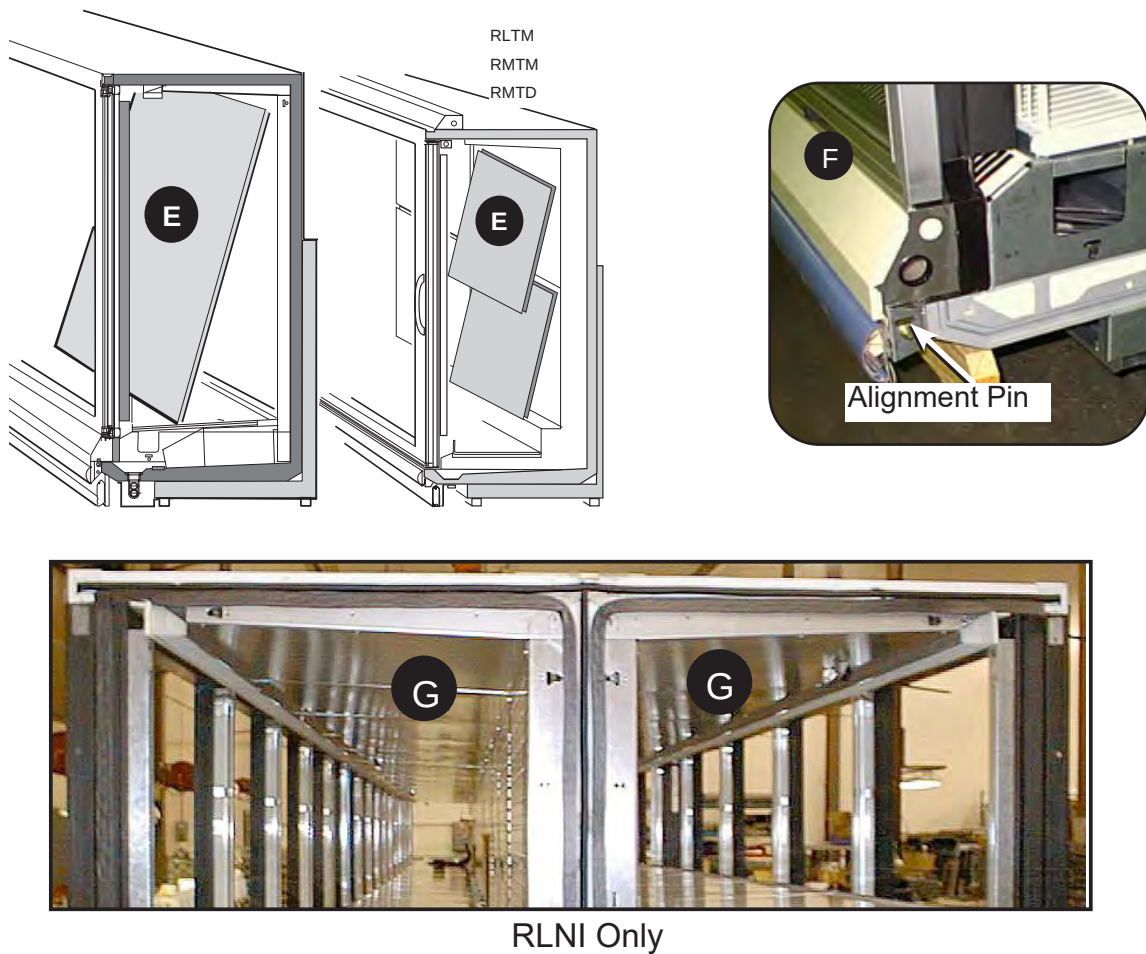

Figure 1. Remove items from case; align cases to be joined
1. Prepare cases for joining (both sides of islands) as shown in Figure 1.